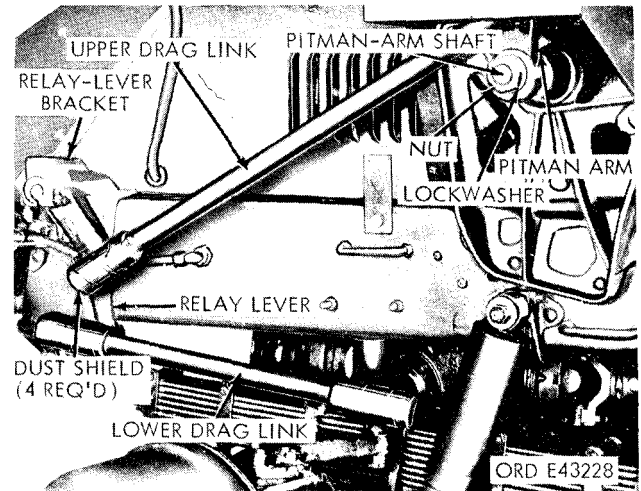

Figure 2-207. Steering linkage under left fender.
**a. Removal (fig. 2-207).**
(1) Remove the nut and lockwasher securing the pitman arm to the left end of the pitman arm shaft.
(2) Pull the pitman arm from the shaft.
(3) Disconnect the rear end of the upper drag link from the pitman arm ball stud (para 2-218).
**b. Installation (fig. 2-207).**
(1) Connect the rear of the upper drag link to the pitman arm ball stud (para 2-218).
(2) Set the front wheels in a straightahead position, and set the steering wheel in the mid-position.
(3) Position the pit man arm on the splined shaft with the arm pointing upward.
(4) Push the pitman arm onto the shaft until the nut can be installed on the threaded end of the shaft.
(1) Remove the dust shield (fig. 2-207) from the pitman arm end of the upper drag link.
(2) Place the front end of the upper drag link on the upper ball stud on the relay lever (fig. 2-207). Screw the adjusting plug into the end of the drag link, but do not tighten it.
(3) Install the dust shield (fig. 2-207) at both ends of the drag link, and lubricate the drag link.
(5) Repeat (4) above at the front end of the upper drag link.
(6) Lubricate the upper drag link in accordance with LO 9-2320-211-12.
*a. Removal.* Remove the lower drag link (fig. 2-207) from the ball studs at the relay lever and steering arm as described in paragraph 2-218a.